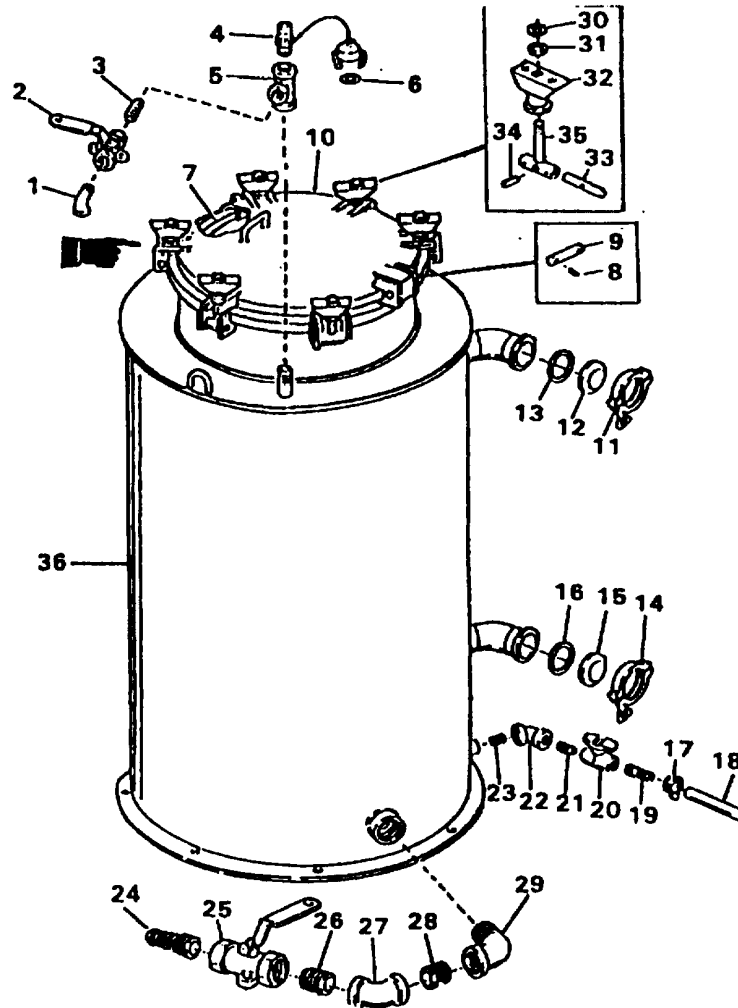

Figure 4-75. NBC Filter
- a. Refer to Figure 4-75, open vent valve (2) and drain valve (20) and drain the NBC filter.